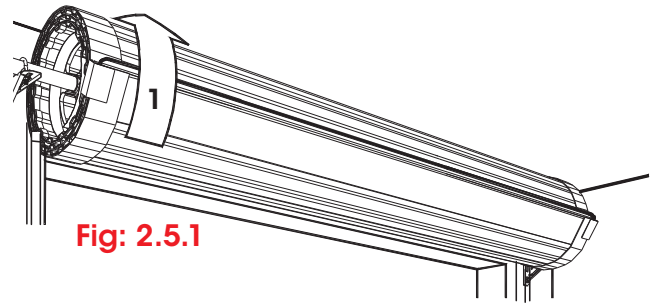

Fig: 2.5.1
- a) Ensure that the bottom rail is at the 9 o'clock position as shown in Fig 2.5.1.
1. Rotate the door approximately 2 complete turns in a forward direction to apply tension. Do not let go as the springs are now tensioned. See arrow in Fig 2.5.1.